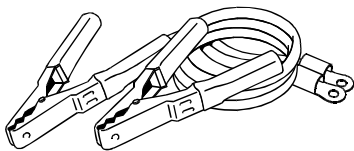

Figure 5 Cable for Direct Connection to 12 V Battery
- For AC loads up to 400 W: Cable clamps to connect the inverter directly to a dedicated 12 V battery. See Figure 5.